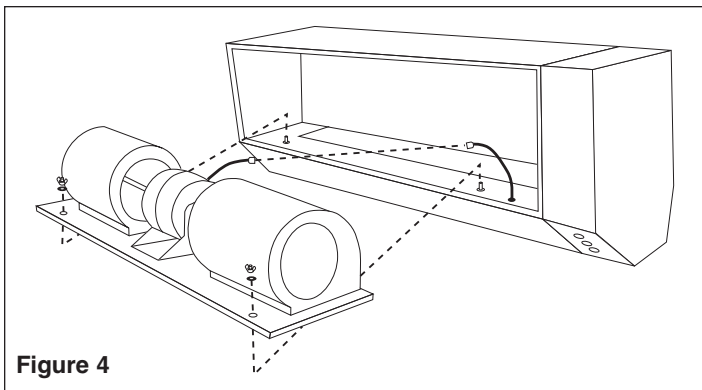

Figure 4
5. Carefully disconnect motor electric cord from socket and plug assembly and remove two wing nuts on blower base. (See Figure 4)